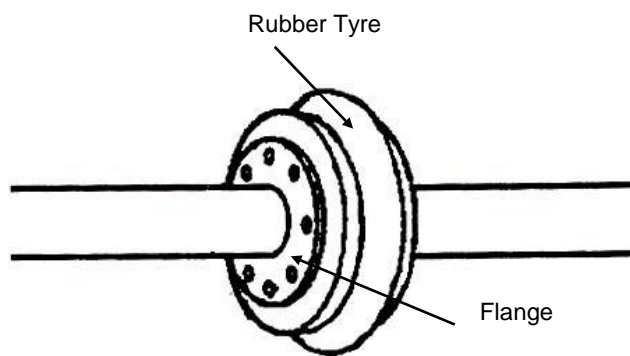

FIG 10.
- A. The tyre coupling (Fig 10) consists of two flanges connected by means of a moulded rubber tyre.